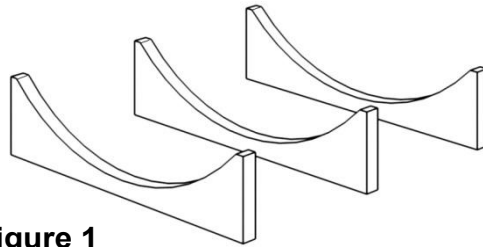
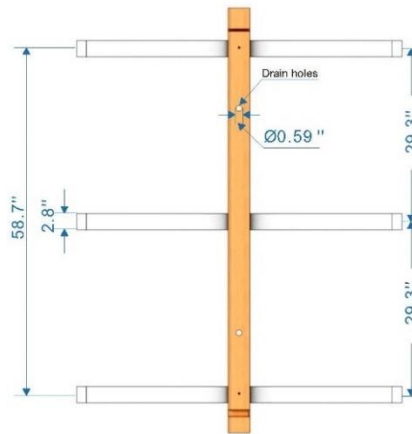

figure 1
figure 1a
Place the bottom support cradles at their desired locations. See figure 1. Determine where the front and rear cradles will be positioned. The GDI-B024-01 model will have (3) support cradles. See figure 1a. The end support cradles will have a sticker indicating where the first stave will screw to the cradle. To avoid damaging your floor, it is not recommended to move the sauna once it is assembled. If the unit is moved, please do so carefully and cautiously.